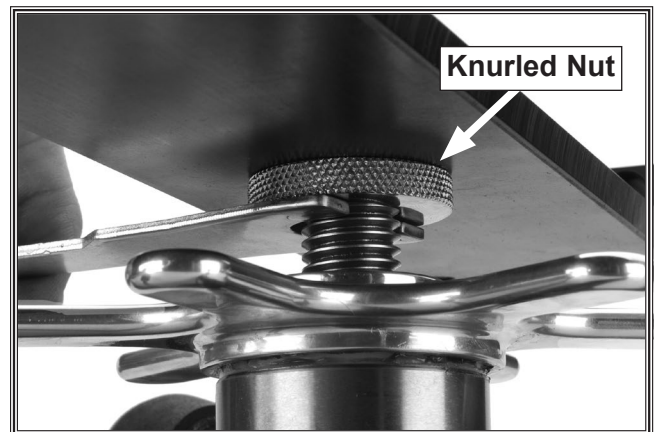

Figure 6. Tightening knurled nut with spanner wrench.
3. Using included spanner wrench, tighten knurled nut against underside of base plate, as shown in **Figure 6**.
The base plate should NOT move independently of fine elevation threads, or it will shift when subjected to shooting recoil. If you find that it does move, then re-tighten knurled nut, as shown in **Figure 6**.